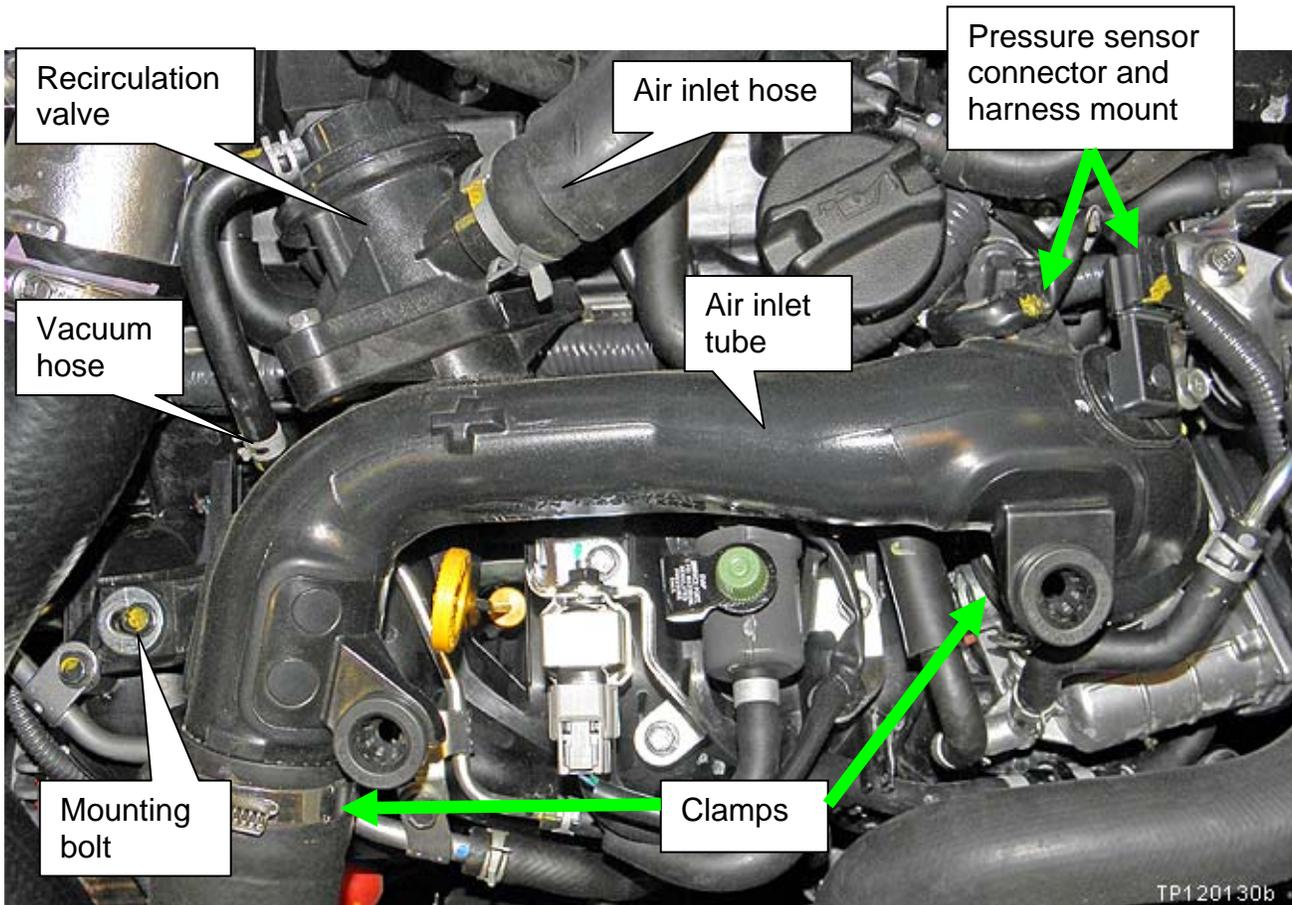

Figure 3
6. Remove the plastic air inlet tube as follows (see Figure 3):